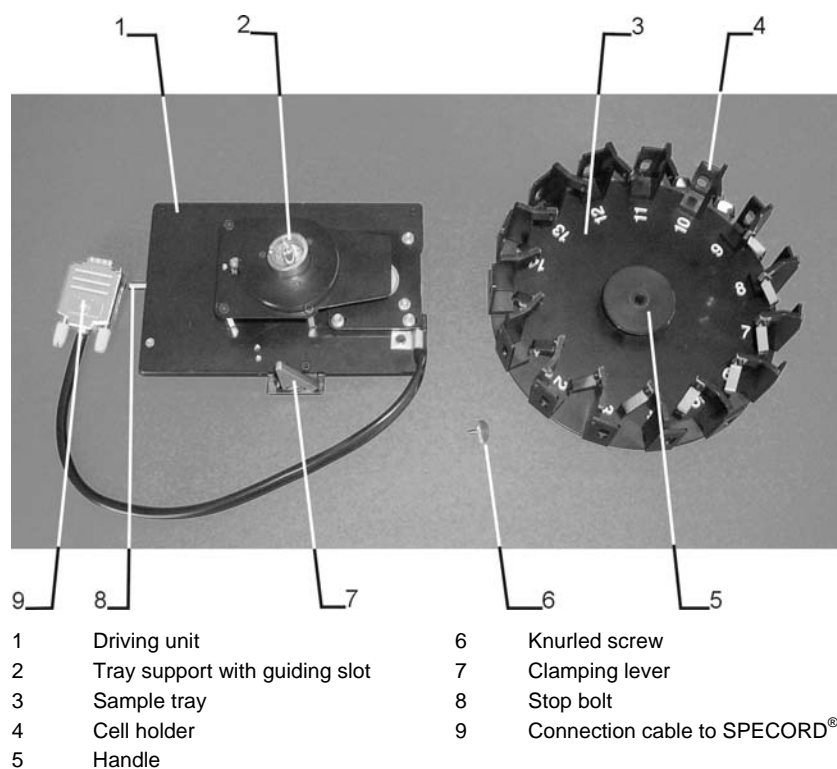

Fig. 12-1 Cell carousel – Driving unit and sample tray
2. With clamping lever (Fig. 12-1/ 7) facing the rear side, place the driving unit (Fig. 12-1/ 1) of the cell carousel onto the two front remounted carrying rails in the sample compartment.
5. Put the sample tray (Fig. 12-1 / 3) onto the corresponding support (Fig. 12-1 / 2) of the driving unit. In doing so, slightly turn the tray so that it engages in the guiding slot.
6. Fix the sample tray to the driving unit by means of the knurled screw (Fig. 12-1 / 6).